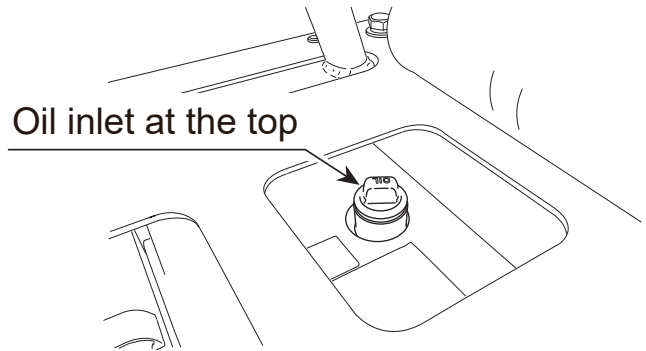

Fig. 3
- ※ When pouring oil from the top (for 1B20D), oil might overflow if large amount of oil is poured at one time. So, pour slowly. (Fig.3)